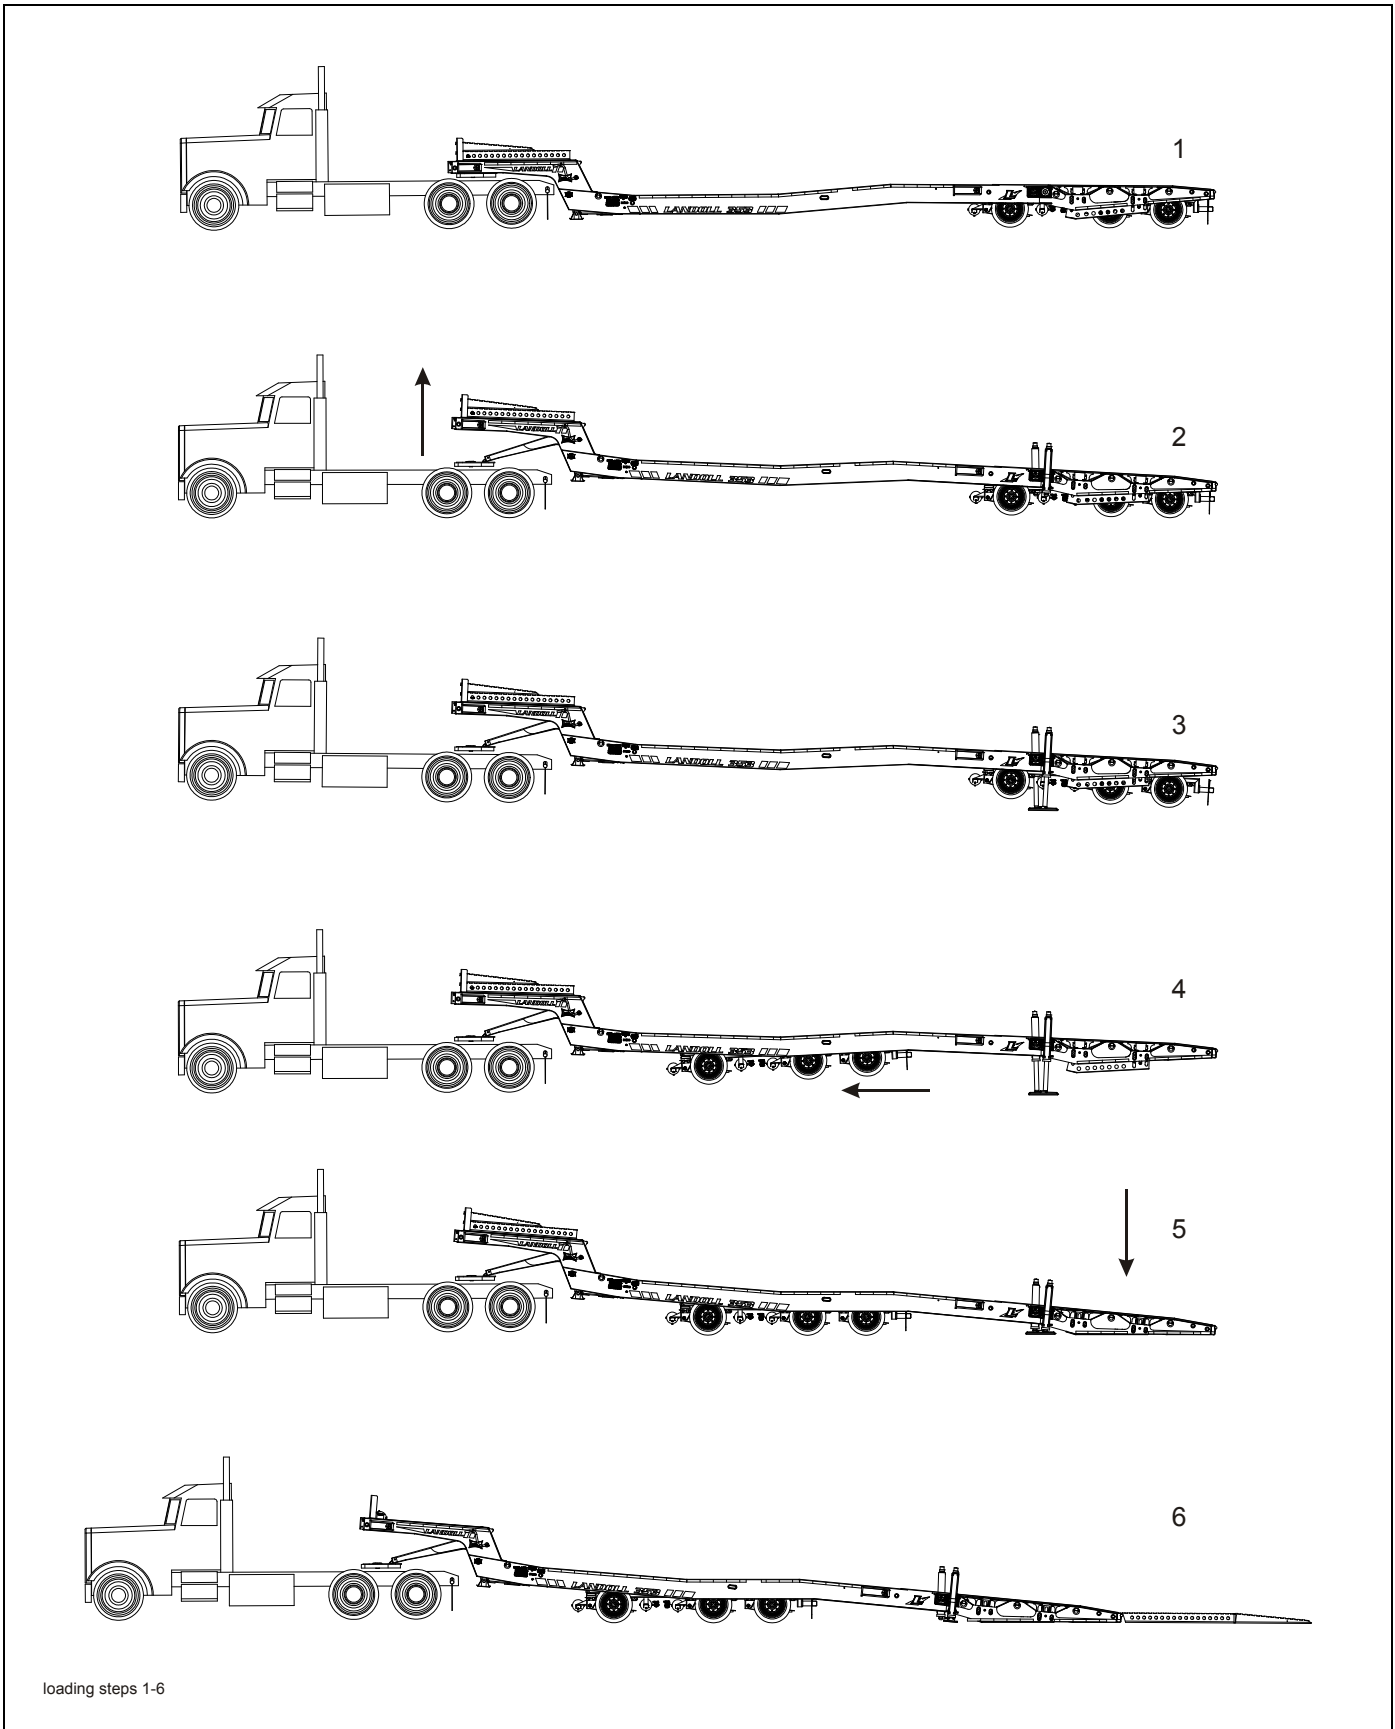

Figure 3-15: Steps for Loading and Unloading
2. Park the tractor/semitrailer in a straight line on level even surface. Set the tractor brakes and release the semitrailer brakes (See Figure 3-15, step 1.)
4. Extend self-stored outrigger arms (out) from frame followed by extending lift leg (up) so that cylinder rotates to its vertical position as described in “Hydraulic Outrigger Operation” on page 3-11. Secure upright position with rotation stop block, bolt and winged nut (these are located on backside of storage compartment door along with outrigger foot pad) (See Figure 3-15, step 2 and 3.)
6. Using tilt controls, lift front of trailer approximately 8' from ground to allow full forward travel of undercarriage (See Figure 3-15, step 2.)
7. Use outrigger lift cylinders to lift trailer frame and tires from ground, placing the undercarriage in its traveling position (See Figure 3-15, step 3.)
8. Move undercarriage fully forward using manual or remote control (note bumper will end up near transition area of bottom outer flange). To maintain tire ground clearance during travel distance, it may be necessary to tilt front of trailer higher (See Figure 3-15, step 4.)
9. With undercarriage forward, lower tail of trailer completely to the ground operating lift legs in the (down) position (See Figure 3-15, step 5.)
10. Attach single or dual set ramps to rear of trailer (See Figure 3-15, step 6.) (See “Ramp Storage and Use” on page 3-15.)
2. Park the tractor/semitrailer in a straight line on a level even surface. Set the tractor brakes and release the semitrailer brakes (**See Figures 3-15 through 3-17.**)